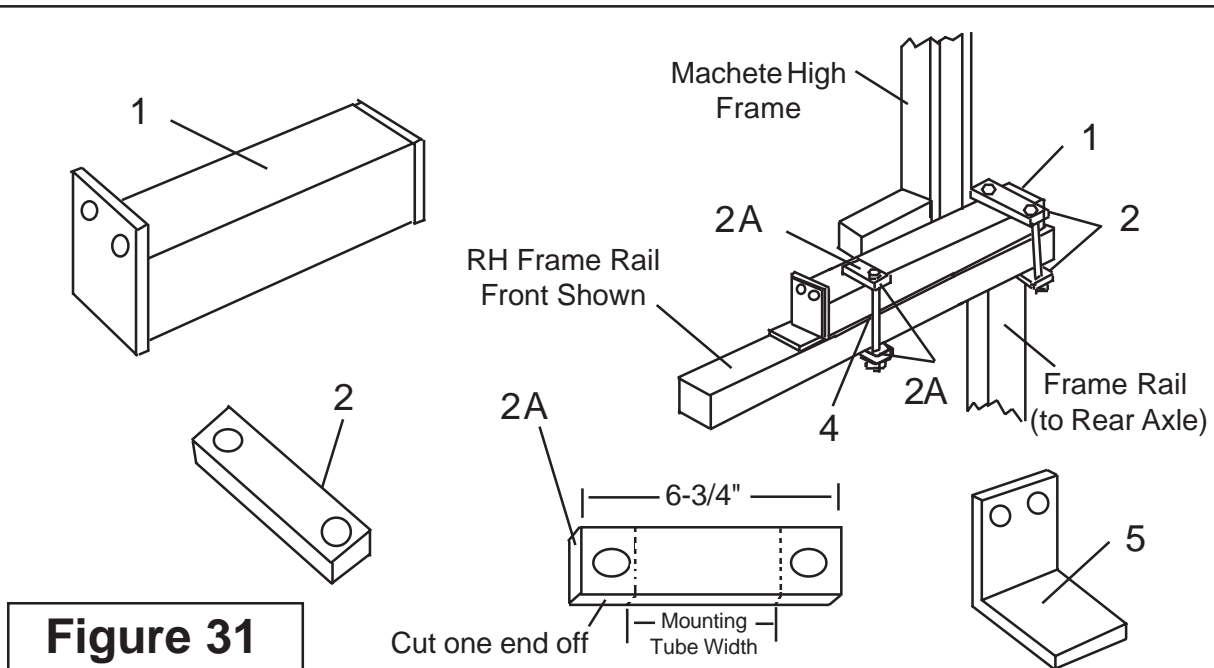

Figure 31
3. Go back and check to make sure you have tack welded the Frame Rail to Mounting Plate and Stabilizer to Frame Rail (**See Figures 31 through 39**).
5. Locate Mounting Tubes and Hardware. See Figure 31 for breakdown of these components.
- A. There will be one Mounting Tube for each side; these tubes are the same so it will not matter which is on which side. The Mounting Tubes are the same on either end. (**See Figure 31 - Item 1**).
- B. There will be 8 Bar Mounting Straps (Part # 02966639); these straps are the same but later in the assembly process 2 will have to be cut (**See Figure 31 - Item 2 & 2A**).
- C. There are 2 Angle Mounts (Part # 02966641), these have two holes in them and when mounted the hole will be up. (**See Figure 31 - Item 5**).
- D. There are 8 bolts (Part # 02957039) & Locknuts (Part # 00037200), the bolts are 3/4" X 10-1/2" Long (**See Figure 31 - Item 4**).
8. Weld Bar Mounting Straps. The RH Front bar Mounting Straps will have to be cut (**See Figure 31**) and welded to the top of the Mounting Tube (**See Figure 43**). Another one cut off and welded to the Bottom of the Frame Rail. (**See Figure 45**) The length of these Bar mounting straps should be cut so it will not be sticking over past frame rail.
9. Recheck that all components are Tack Welded. (**See Figures 31 through 45**)